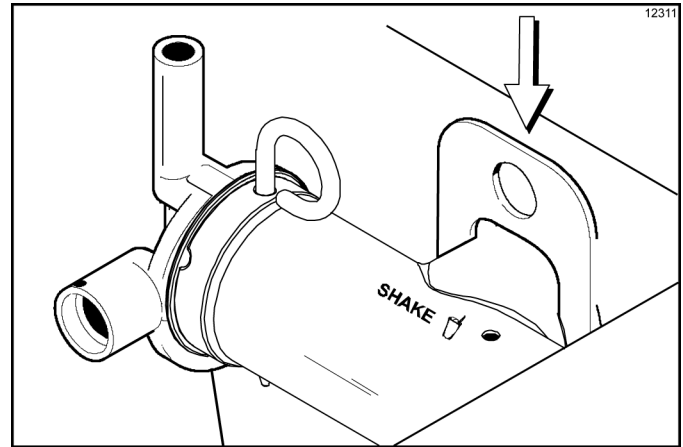

Figure 6-35
5. Install the air/mix pump assembly at the rear of the mix hopper. To position the pump on the drive hub, align the drive slot in the piston with the drive crank of the driveshaft. Secure the pump in place by slipping the pump clip over the collar of the pump, making sure the clip fits into the grooves in the collar. (See Figure 6-35.)